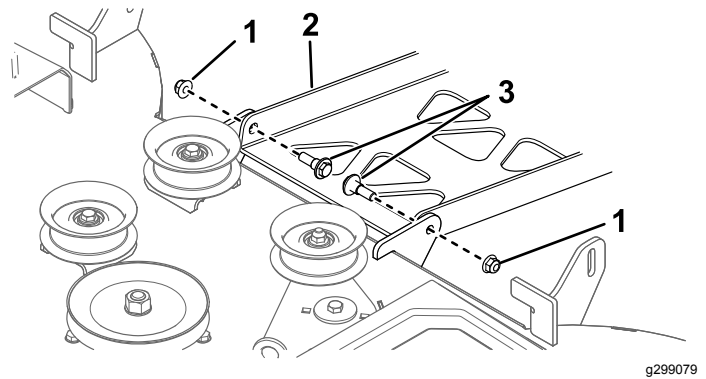

Figure 61
- At the rear of the mower deck, remove the 2 shoulder bolts and nuts securing the deck to the pivot pan (Figure 61).
9. Secure the rear of the deck to the pivot pan using the shoulder bolts and nuts removed previously (Figure 61).